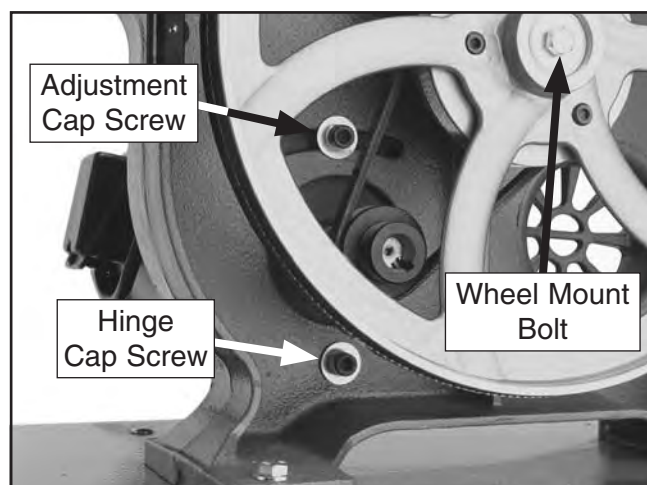

Figure 60. Locations of the wheel mount bolt, and motor adjustment and hinge cap screws.
3. Loosen the motor adjustment and hinge cap screws shown in **Figure 60**.